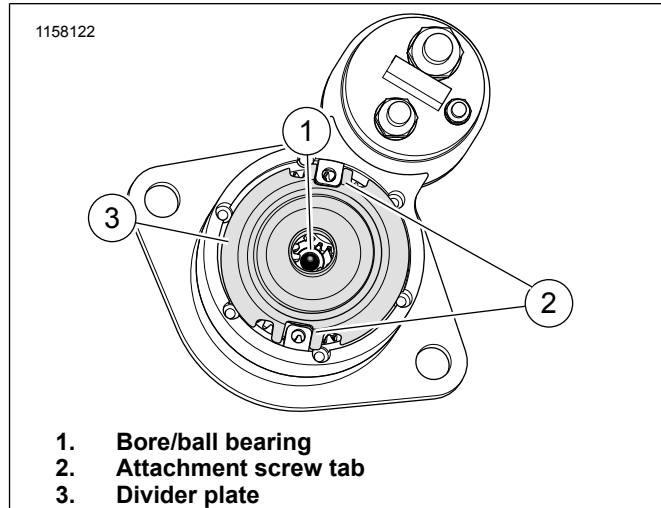

Figure 3. Armature Shaft Ball Bearing
5. Figure 3 Remove divider plate (3).
7. Inspect for ball bearing (1) shaft bore.
- f. Coat planetary gear set and ball bearing using the grease package (6).
10. Figure 3 Inspect attachment screw tabs (2) for cracks or damage.